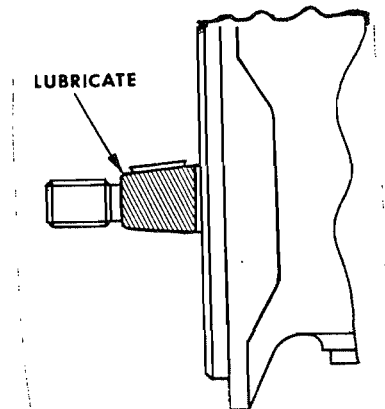

Figure 921. Applying Compound to Magnet Shaft
- G. Engage recess in hub on cam assembly (48) with eye at inner end of spring. With eye engaged, rotate cam assembly slightly in direction to unwind spring to permit hub of cam to slip into inner turn of spring. Rotate cam in opposite direction, winding spring slightly, until projections on edge of cam (48) clear over projections on body (46). Push cam assembly down into body, at the same time taking the screwdriver out.
- I. To install the impulse coupling on the magneto shaft, first apply a thin coating of 646943 Anti-Seize Lubricant to the taper of the rotating magnet shaft. (See Figure 921.) This reduces seizure of the cam assembly to the shaft. Install woodruff key (49) in tapered portion of shaft, install coupling assembly (45) and washer (41), if applicable, install drive member woodruff key (49), and bushing (40). Install lockwasher (39) if used, and thread nut (38) onto shaft. Using torque wrench, tighten nut (38) to 15 ft.-lbs. and install new cotter pin (37). If unable to install pin, tighten nut to next castle not to exceed 25 ft.-lbs. and install pin.
Apply thin coating of 646943 Anti-Seize Lubricant on taper of rotating magnet shaft (See Figure 921). Install woodruff key (49) and the drive member (44a). Install lockwasher (39), and nut (38) onto rotor (61). Torque nut to 15 ft.-lbs. and install cotter pin (37). If pin (37) cannot be installed, torque nut (38) not to exceed 25 ft.-lbs. and install pin (37).